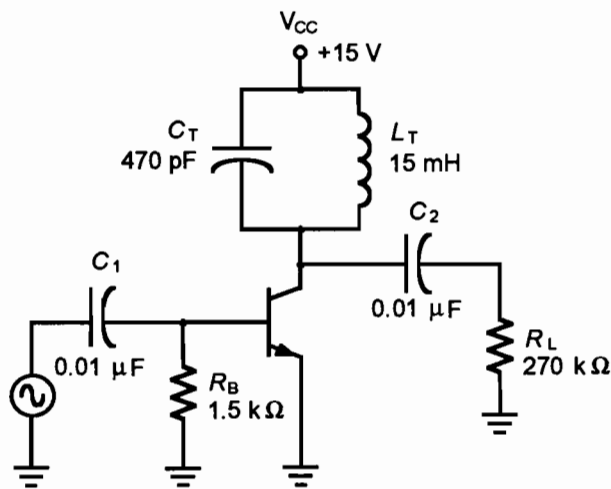

Figure 25.1
1. Construct the circuit in Figure 25.1.
1. If the value of  $C_T$  in the amplifier circuit of Figure 25.1 decreased to one-half the value, what effect would this have on the circuit operation and parameters? Write your prediction here: